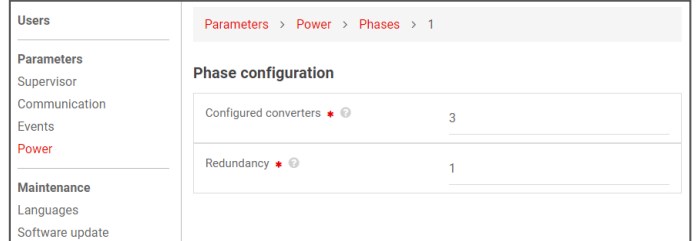

Figure 6: Inview S - Number of modules in each phase
- Go to “Phase configuration” page (Administration (⚙️) > Parameters > Power > Phases > Phase 1) and enter the number of modules and redundancy for the corresponding phase. (Figure 6)